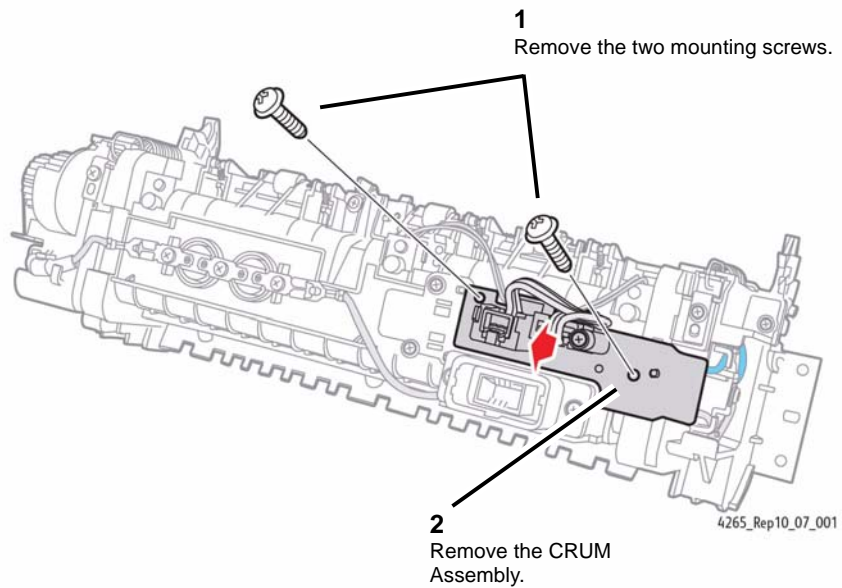

Figure 1 Removing the CRUM Assembly
2. Remove the CRUM Assembly (Figure 1).